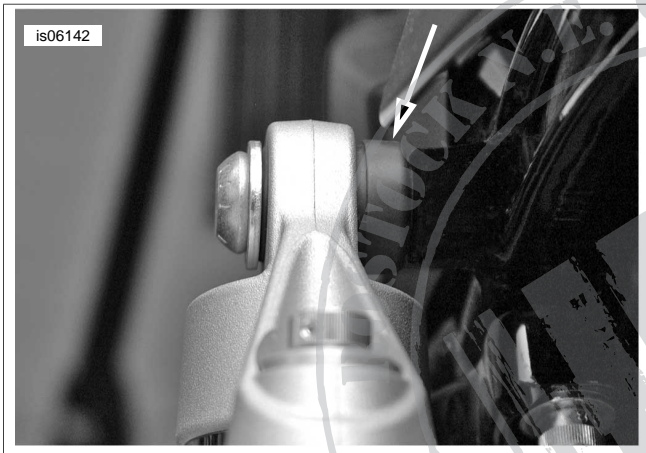

Figure 3. Install Thick Side Of Grommet To Frame Rail
1. See Figure 3. Install the rear shock absorbers according to service manual instructions. The shocks are installed with the external gas reservoir to the rear of the shock absorbers and the thick side of the grommet installed to the frame rail mounts.